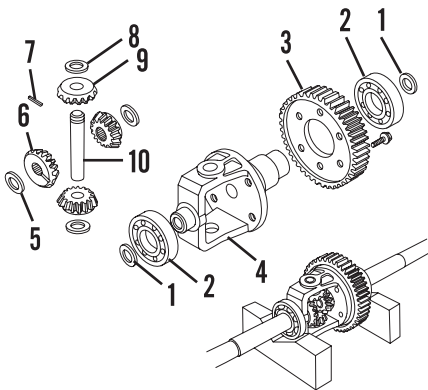

Fig. HN1-22—Exploded view of differential assembly.
NOTE: Ring gear (3—Fig. HN1-22) retaining screws have left-hand threads.
To disassemble the differential, remove the bearings (2—Fig. HN1-22) from the differential case (4). Unscrew the ring gear screws (left-hand threads) and separate the ring gear (3) from the case. Drive out the spring pin (7) and remove the pinion shaft (10), side gears (6) and pinion gears (9) and thrust washers (5 and 8).
Tighten the ring gear (3—Fig. HN1-22) retaining screws (left-hand threads) to 45-55 N·m (33-40 ft.-lb.).